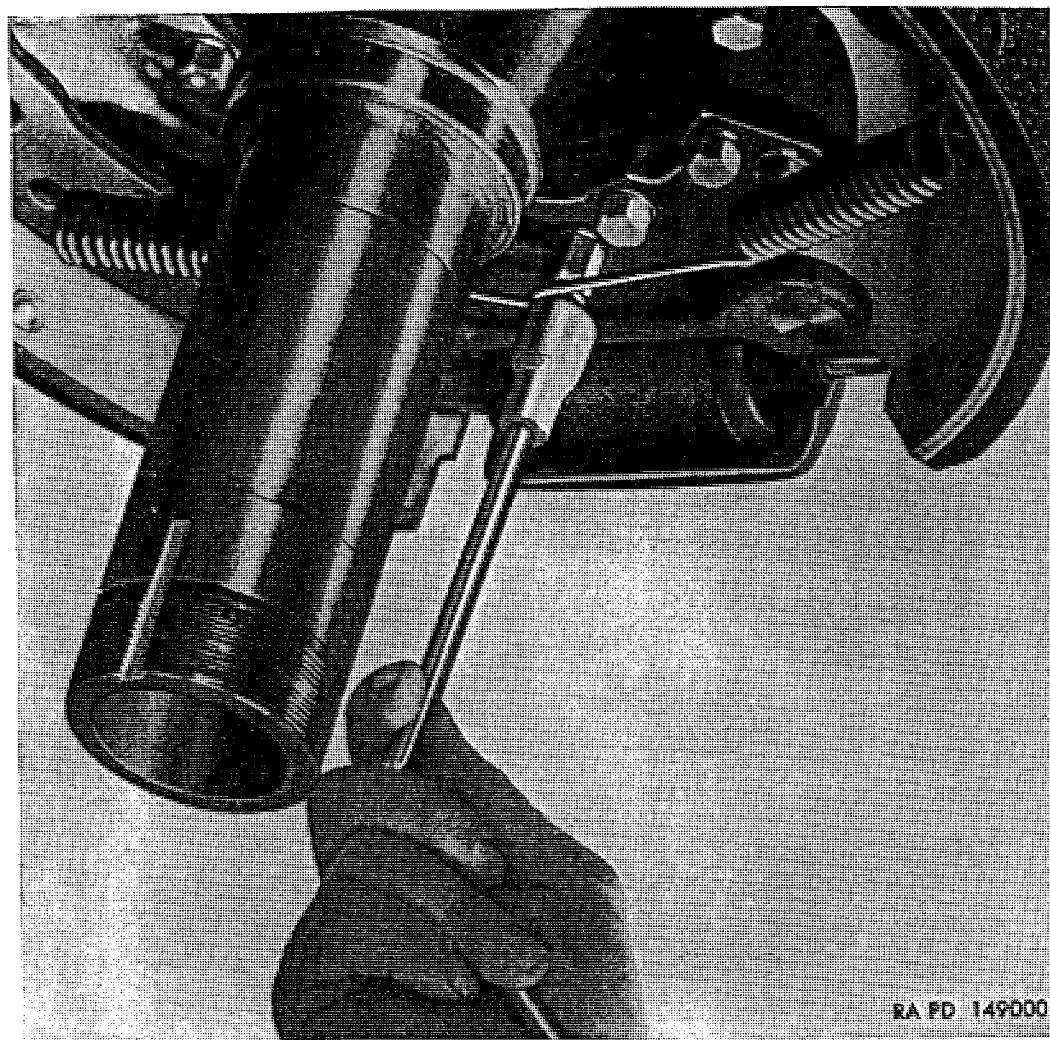

Figure 247. Removing brake shoe return springs, using remover and replacer B7950060.
- (1) Jack up axle and remove wheel (or wheels) (par. 259*b*).
- (2) At front axle, remove hub drive flange (par. 221*b*); at rear axle, remove axle shaft (par. 225*b*).
- (3) Remove hub and brake drum (par. 266*a*).
- (4) Using brake shoe spring remover and replacer B7950060 (fig. 247), unhook brake shoe return springs (D) from return spring pins. Remove springs from brake shoes.
- (5) Remove nut, lockwasher, guide washer (E), and sleeve from front brake shoe guide bolt (F) and remove guide bolt. Lift shoe ends out of anchor blocks (G) and wheel cylinder push rods to remove brake shoe, and lining assembly (B).
- (6) Remove guide bolt (F), lockwasher, guide washer (E), and sleeve attaching rear brake shoe to backing plate (A). Lift shoe ends out of anchor blocks (G) and wheel cylinder push rods to remove shoe.